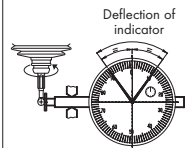

Fig. 2.2: Adjust testing gauge
5. Set 0-point of testing gauge so that the indicator deflects the same in both directions when the spindle is turned (fig. 2.2).